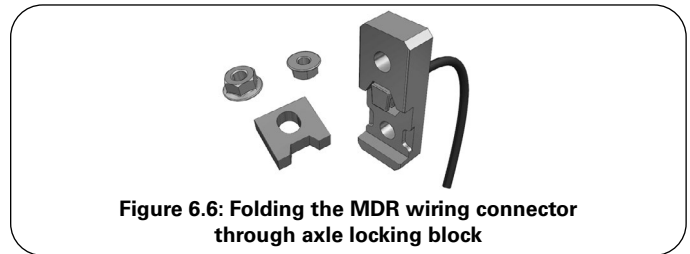

Figure 6.6: Folding the MDR wiring connector through axle locking block
- Thread the MDR wiring harness out of the axle lock mechanism base plate. It is necessary to carefully fold the wires perpendicular to the cable connector and guide it through the hexagonal hole in the axle locking block. (see Figure 6.6).